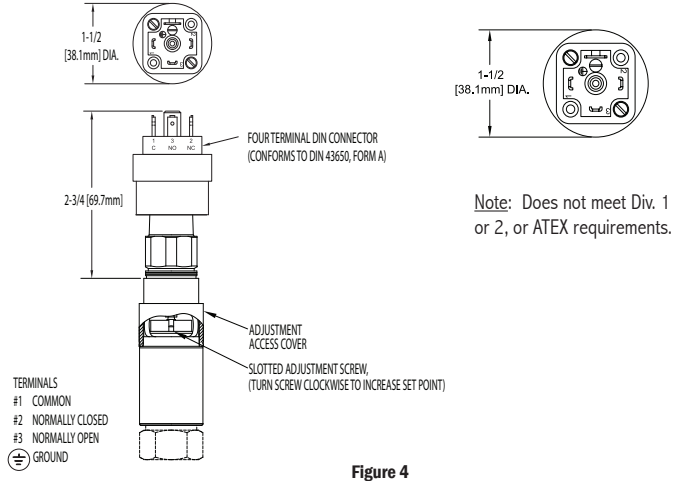

Figure 4
DIN CONNECTOR (OPTION M515, FIGURE 4) IS NOT APPROVED FOR CLASS I, DIV. 1 HAZARDOUS LOCATIONS/FLAMEPROOF ATMOSPHERES.
**DIN Connector with 4 Male Terminals (See Figure 4)**